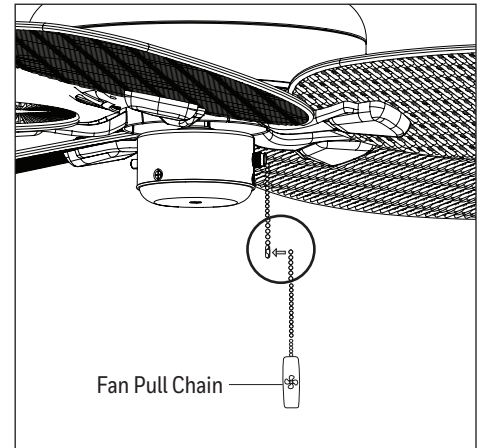

Figure 5.6
6. Attach the pull chain extension (Figure 5.6).